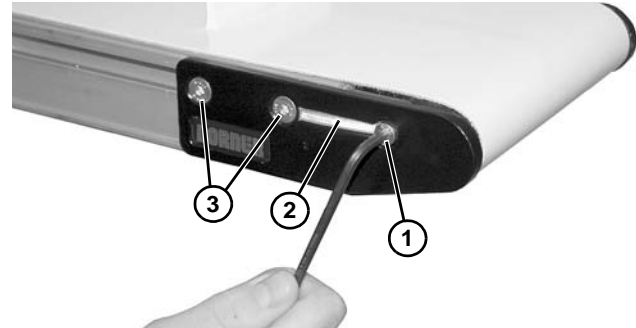

Figure 92
1. On one side of the conveyor, remove screw (Figure 92, item 1) and remove dust cover (Figure 92, item 1), if installed.
2. Remove two fastening screws (Figure 92, item 3).